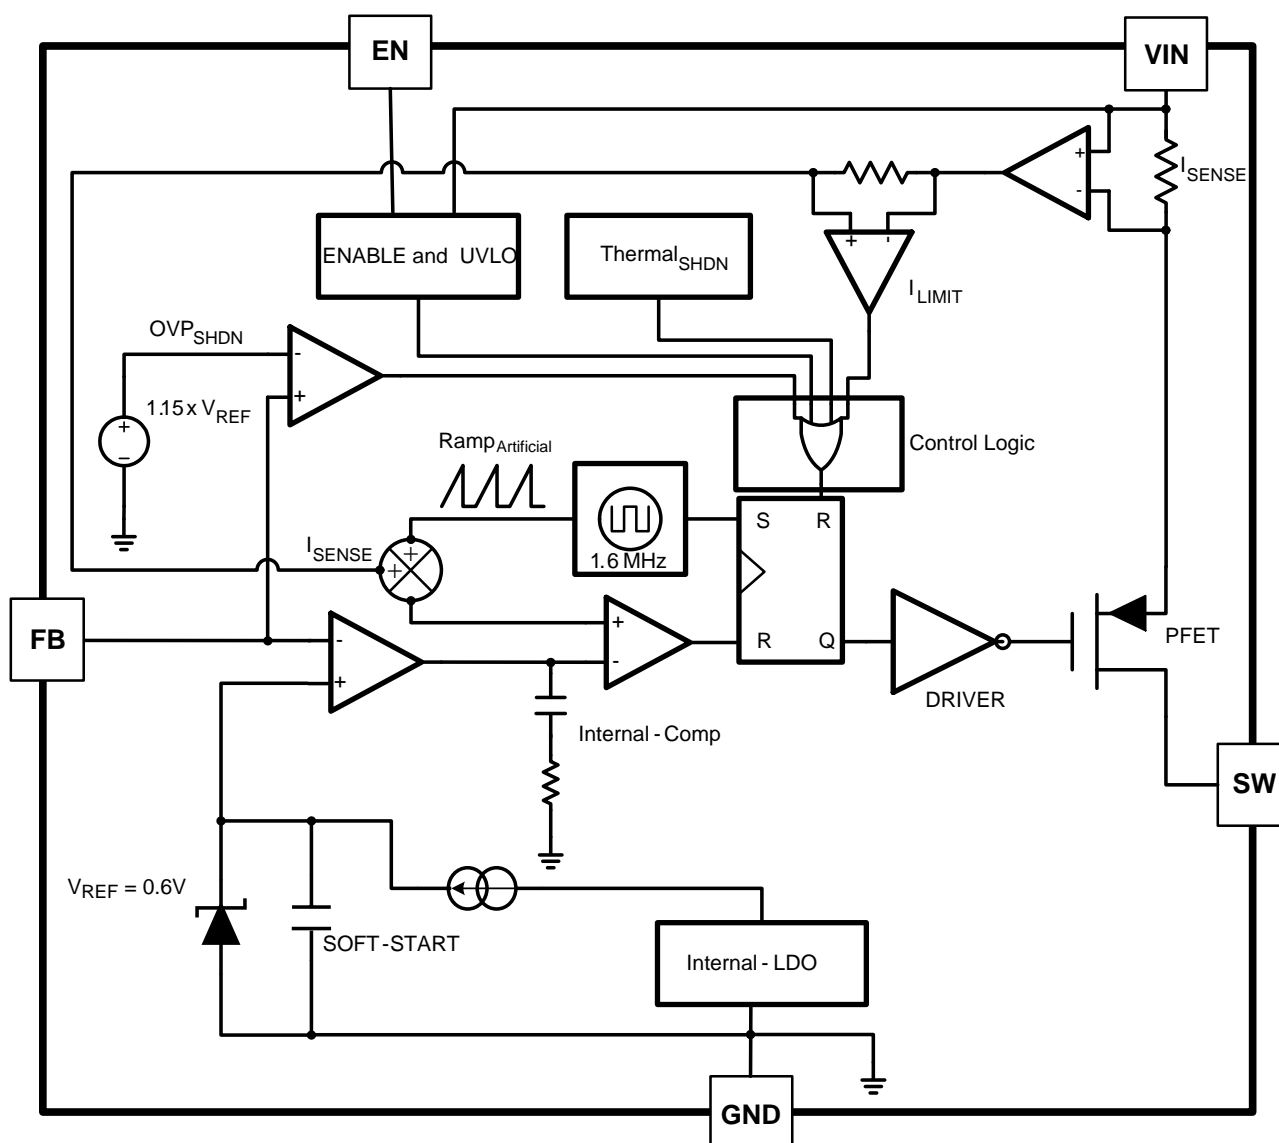
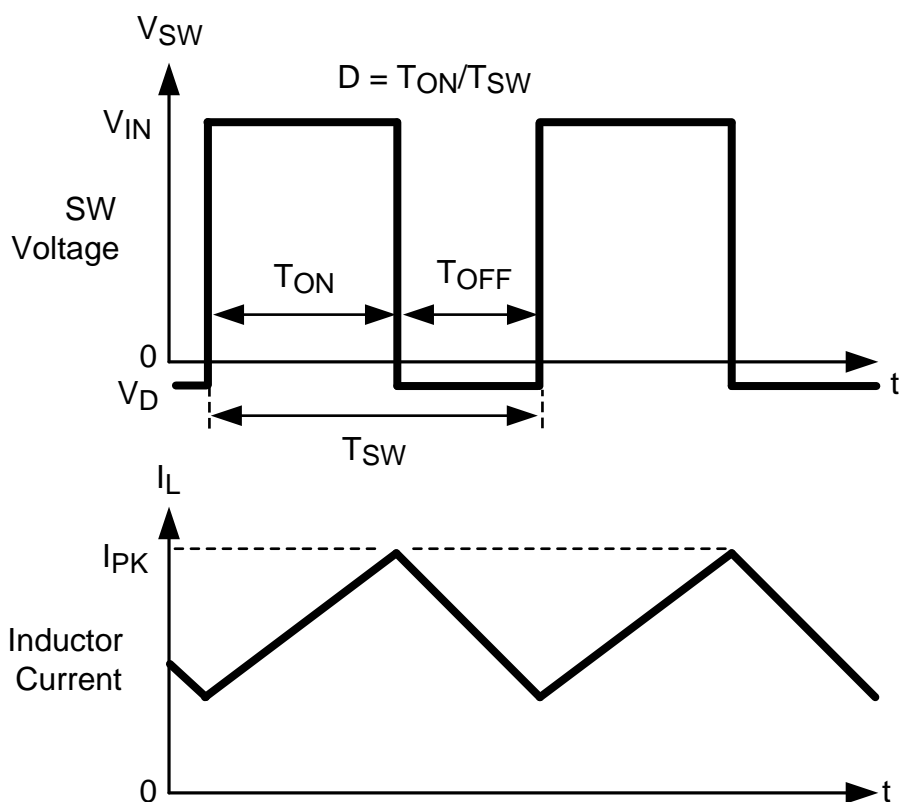

Figure 20.
Figure 21. Typical Waveforms
The following operating description of the LMR10520 will refer to the SIMPLIFIED BLOCK DIAGRAM (Figure 20) and to the waveforms in Figure 21. The LMR10520 supplies a regulated output voltage by switching the internal PMOS control switch at constant frequency and variable duty cycle. A switching cycle begins at the falling edge of the reset pulse generated by the internal oscillator. When this pulse goes low, the output control logic turns on the internal PMOS control switch. During this on-time, the SW pin voltage ( $V_{SW}$ ) swings up to approximately  $V_{IN}$ , and the inductor current ( $I_L$ ) increases with a linear slope.  $I_L$  is measured by the current sense amplifier, which generates an output proportional to the switch current. The sense signal is summed with the regulator's corrective ramp and compared to the error amplifier's output, which is proportional to the difference between the feedback voltage and  $V_{REF}$ . When the PWM comparator output goes high, the output switch turns off until the next switching cycle begins. During the switch off-time, inductor current discharges through the Schottky catch diode, which forces the SW pin to swing below ground by the forward voltage ( $V_D$ ) of the Schottky catch diode. The regulator loop adjusts the duty cycle (D) to maintain a constant output voltage.